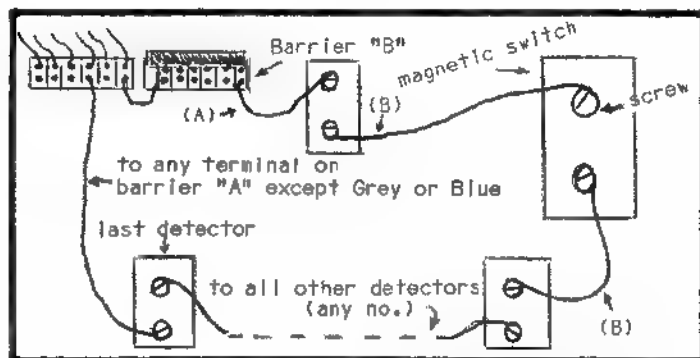

Fig. 2
You have a choice here. If you want the alarm to be able to tell you where a break-in has occurred, you will have to run double wires to every detector in the house. The simple hook-up is to just make an open circuit alarm circuit (see Fig. 2). Then you have one wire coming off the barrier strip, connecting between every detector, and a wire coming back to the computer completing the circuit. You probably would want to do it this way, as you might not care to know exactly where a break-in is occurring...you'll be ready with your UZI.
2) Using 20 or 22 gauge stranded wire (or whatever you you prefer, single conductor, ect.), run a wire from a screw on the common barrier (connected to the GREY wire), to one terminal of whichever detector is closest to the computer (see Fig. 2, part A).
3) Now run a wire from the second terminal of the detector to a terminal on the next nearest detector. Continue stringing detectors together as in Fig. 2, part B.